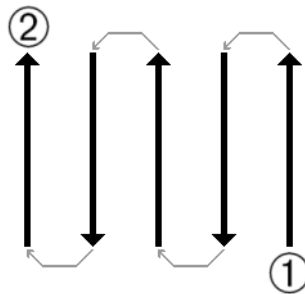

Figure 47: Given manner
Figure 47 shows all different ways of scanning in a scheme. The measurement starts at your starting point ① and ends at point ②.